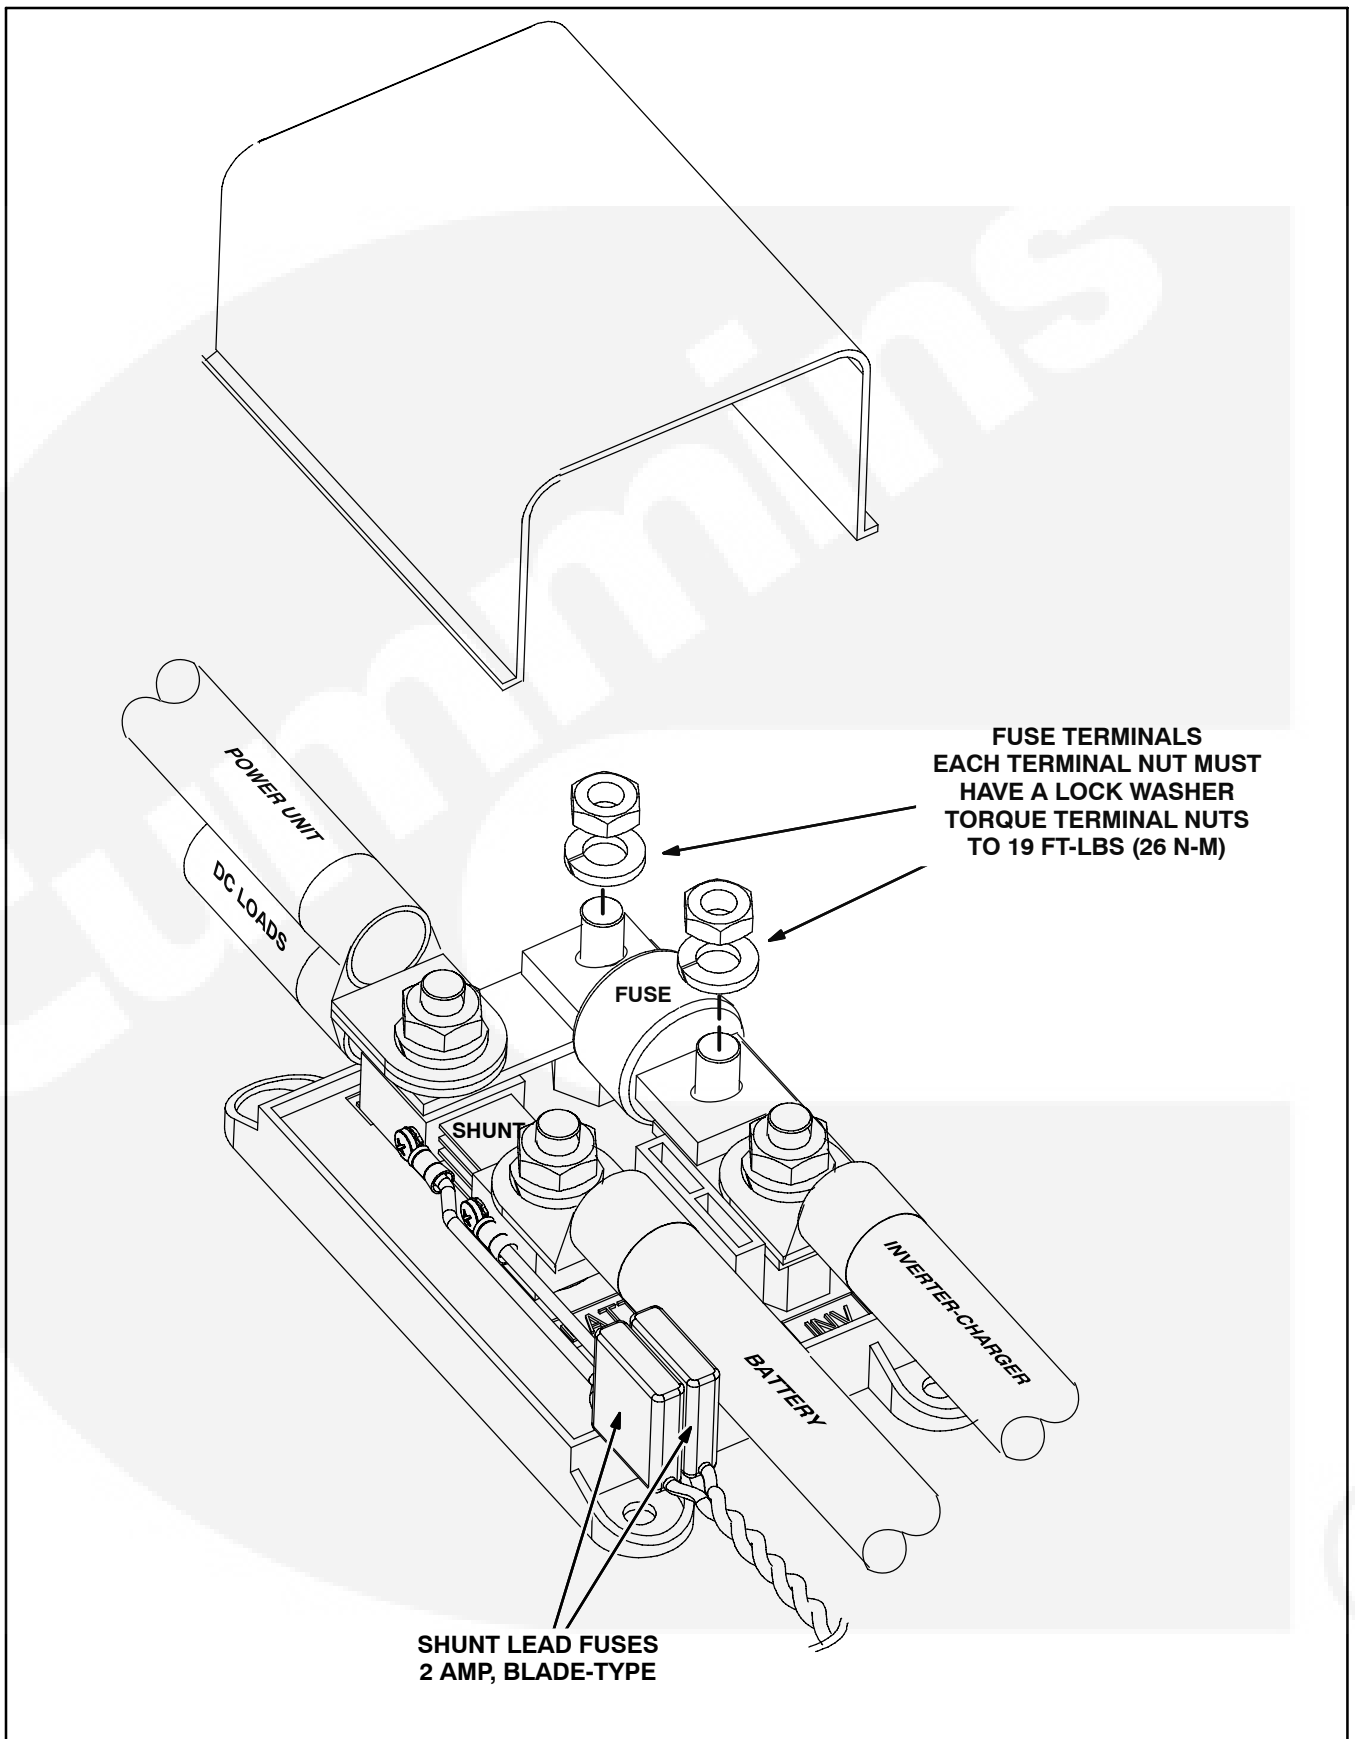

FIGURE 6-2. REPLACING BATTERY FUSE
The two Shunt/Fuse blocks (Figure 6-2) are mounted near the positive (+) terminals of the Coach Batteries, one for each Inverter/Charger.
3. Remove the battery fuse cover from the fuse block (Figure 6-2).